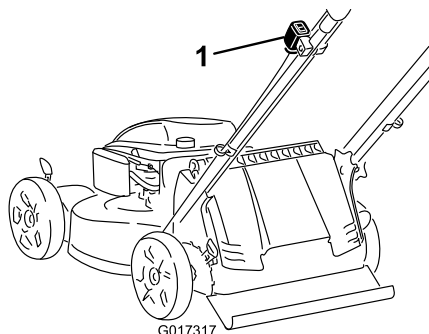

Figure 12
1. If the ignition switch on your machine (Figure 12) is a toggle switch (with both an “I” and a “Stop”), push the switch to the (“I”) position. Otherwise, go to step 2.